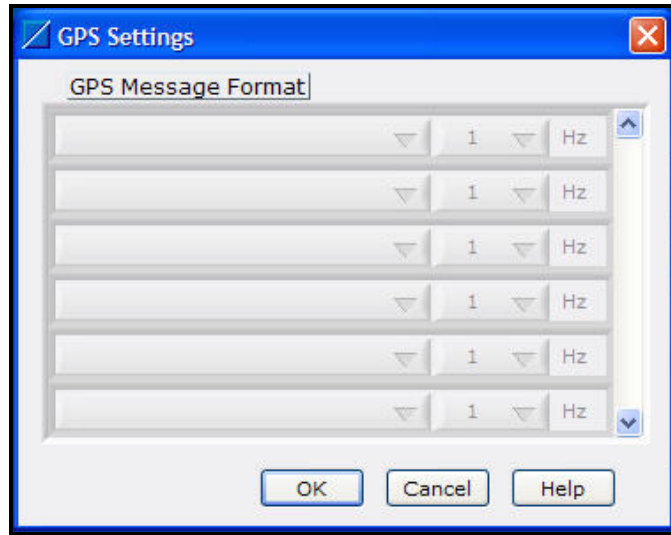

Figure 5. GPS Message Format menu
- Select Hardware Status in the GPS Message Format pane by clicking the drop-down arrow as shown in Figure 5. Leave the default sampling rate of 1Hz as-is.